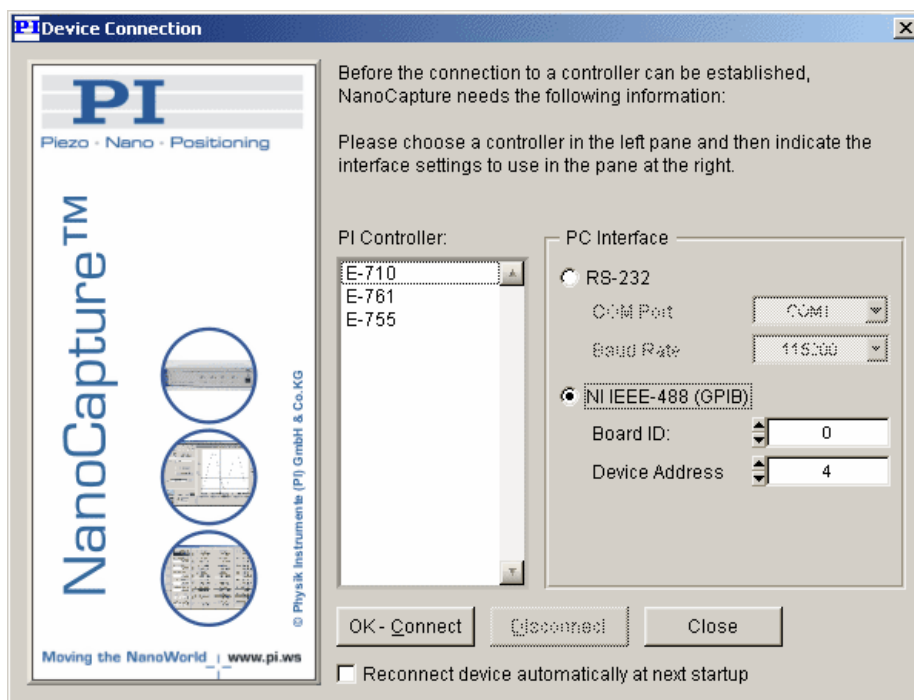

Fig. 1. Device Connection window before connection
3. When *NanoCapture™* is started for the first time, the *Device Connection* configuration dialog will be displayed (see Fig. 1).
The *Device Connection* window (Fig. 1) is used to establish a connection. If it does not appear when you need it, it can be opened via the *Config* menu.